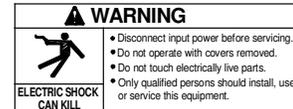

Figure 44
3. Locate the HF board W05X1331, see **Figure 44**